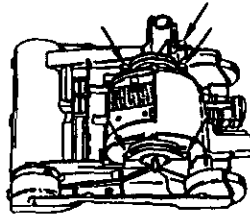

Fig. 27
4. Remove motor retainer right half and left half. (Fig. 27)